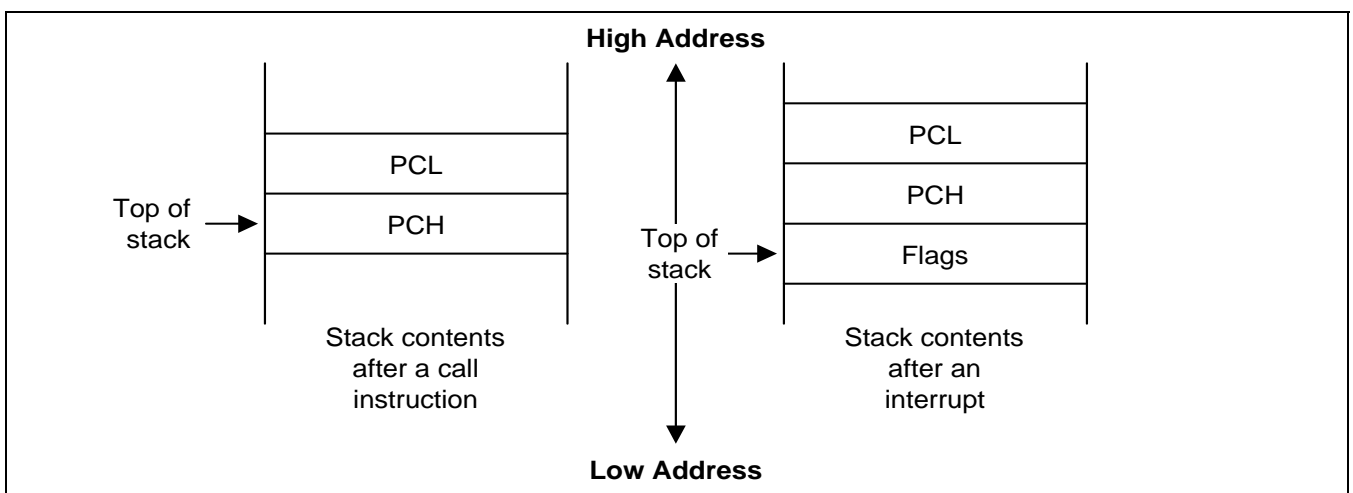

Figure 2-16. Stack Operations
Return addresses for procedure calls, interrupts, and data are stored on the stack. The contents of the PC are saved to stack by a CALL instruction and restored by the RET instruction. When an interrupt occurs, the contents of the PC and the FLAGS register are pushed to the stack. The IRET instruction then pops these values back to their original locations. The stack address value is always decreased by one before a push operation and increased by one after a pop operation. The stack pointer (SP) always points to the stack frame stored on the top of the stack, as shown in Figure 2-16.